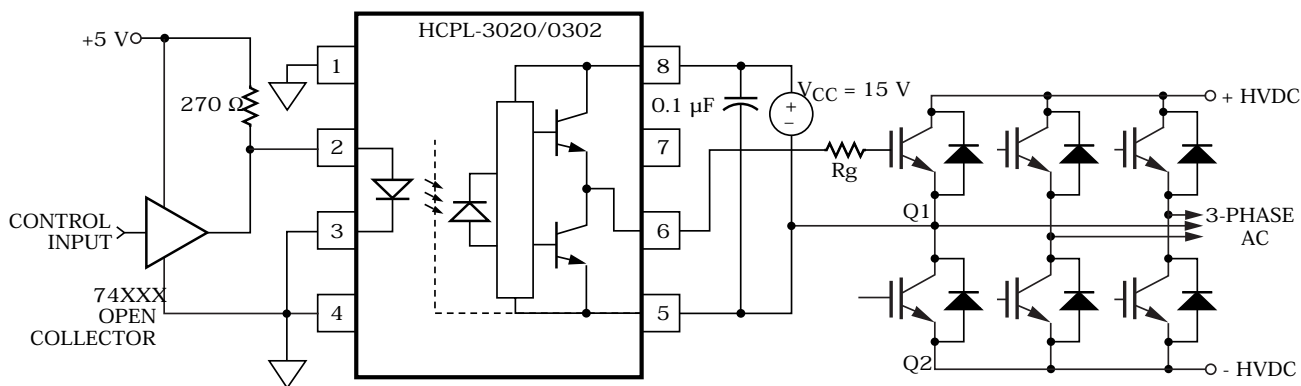
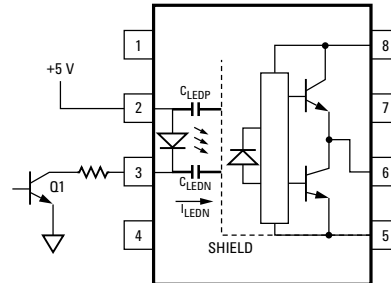

Figure 17. Recommended LED drive and application circuit for HCPL-3020 and HCPL-0302.
Figure 22. Not recommended open collector drive circuit.
To keep the IGBT firmly off, the HCPL-3020 and HCPL-0302 have a very low maximum V_{OL} specification of 1.0 V. Minimizing R_g and the lead inductance from the HCPL-3020 or HCPL-0302 to the IGBT gate and emitter (possibly by mounting the HCPL-3020 or HCPL-0302 on a small PC board directly above the IGBT) can eliminate the need for negative IGBT gate drive in many applications as shown in Figure 17. Care should be taken with such a PC board design to avoid routing the IGBT collector or emitter traces close to the HCPL-3020 or HCPL-0302 input as this can result in unwanted coupling of transient signals into the input of HCPL-3020 or HCPL-0302 and degrade performance. (If the IGBT drain must be routed near the HCPL-3020 or HCPL-0302 input, then the LED should be reverse biased when in the off state, to prevent the transient signals coupled from the IGBT drain from turning on the HCPL-3020 or HCPL-0302.
Step 1: Calculate R_g minimum from the I_{OL} peak specification. The IGBT and R_g in Figure 17 can be analyzed as a simple RC circuit with a voltage supplied by the HCPL-3020.
where $K_{ICC} \cdot Q_g \cdot f$ is the increase in I_{CC} due to switching and K_{ICC} is a constant of 0.001 mA/(nC*kHz). For the circuit in Figure 17 with I_F (worst case) = 10 mA, $R_g = 57.5 \Omega$, Max Duty Cycle = 80%, $Q_g = 100$ nC, $f = 20$ kHz and $T_{AMAX} = 85^\circ\text{C}$:
perturbations in the LED current during common mode transients and becomes the major source of CMR failures for a shielded optocoupler. The main design objective of a high CMR LED drive circuit becomes keeping the LED in the proper state (on or off) during common mode transients. For example, the recommended application circuit (Figure 17), can achieve $10 \text{ kV}/\mu\text{s}$ CMR while minimizing component complexity.
The open collector drive circuit, shown in Figure 22, cannot keep the LED off during a $+dV_{CM}/dt$ transient, since all the current flowing through C_{LEDN} must be supplied by the LED, and it is not recommended for applications requiring ultra high CMR₁ performance. The alternative drive circuit, which like the recommended application circuit (Figure 17), does achieve ultra high CMR performance by shunting the LED in the off state.